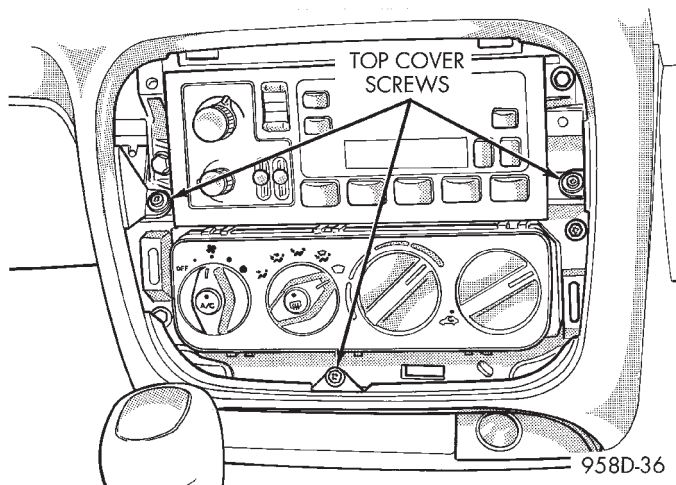

Fig. 6 Instrument Panel Top Cover Attaching Screws
(6) Remove screws attaching the instrument panel top cover to the instrument panel (Fig. 6).
(23) Install screws holding instrument panel top cover to center of instrument panel (Fig. 6).